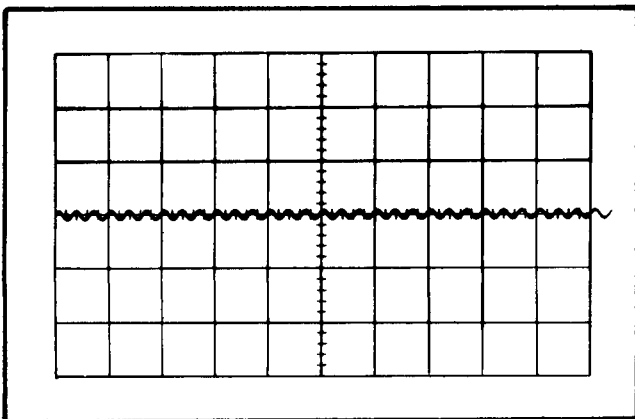

Fig. 5-17. Typical CRT display when checking low-frequency reject operation at 30 kilohertz.
- c. CHECK—Stable CRT display (see Fig. 5-17) can be obtained with the A LEVEL control.
- i. CHECK—Stable CRT display (see Fig. 5-17) can be obtained with the B LEVEL control.